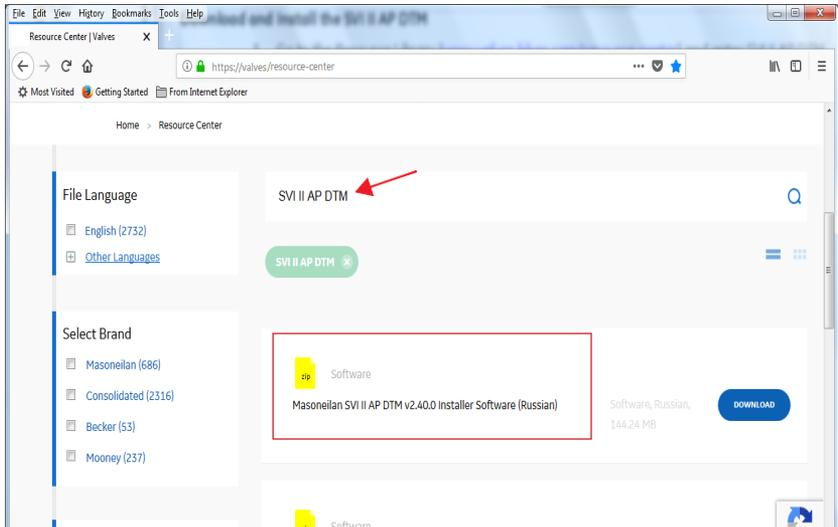

Figure 11 - Download Center: Search for SVI II AP DTM
1. Go to the Resource Center (<https://valves.bakerhughes.com/resource-center>) and enter SVI II AP DTM in the search field (red arrow in Figure 11).
The results appear (Figure 11).